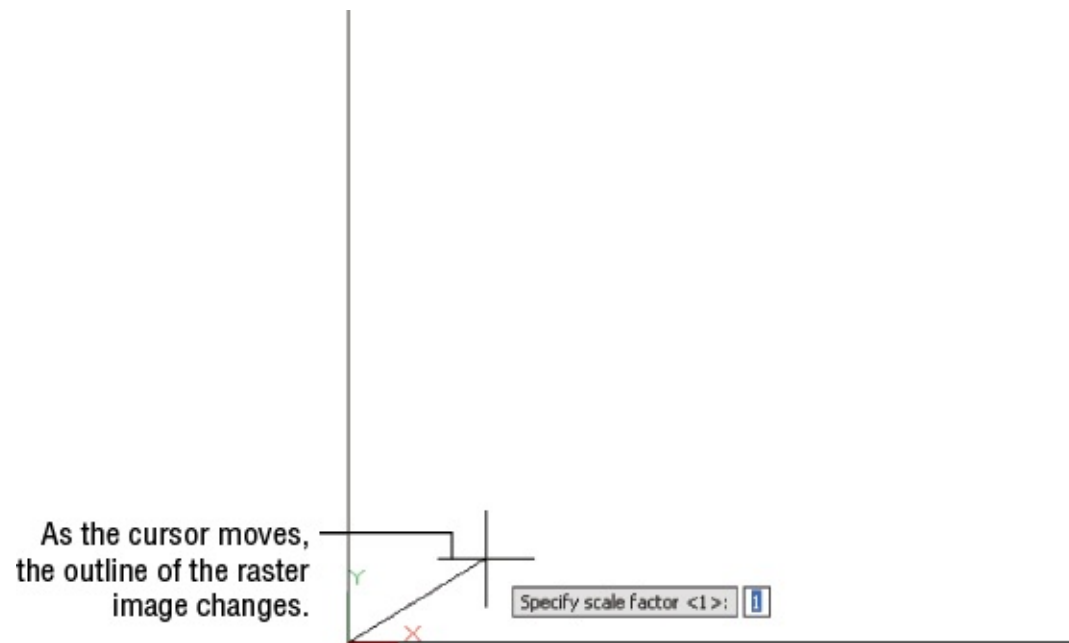

FIGURE 13.3 Manually scaling the raster image
8. Click OK, and then, at the Specify scale factor <1>: prompt, use the cursor to scale the image so that it fills about half of the screen, as shown in Figure 13.3. The raster1.jpg filename appears in the External References palette.